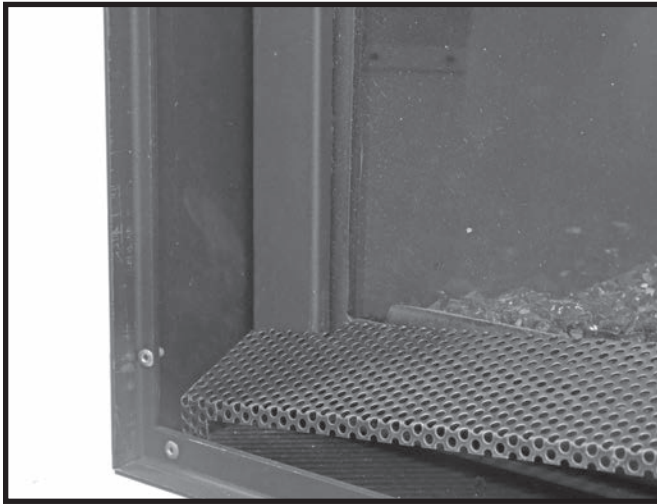
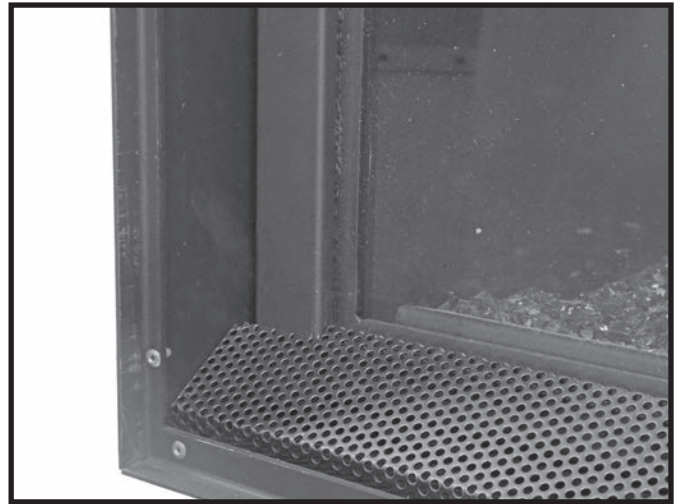

Figure 58: Installing bottom trim.
Figure 59: Bottom trim in place.
4. The meshed trim piece for the bottom rests on the floor and in the gap between the outer-most door frame and the fireplace glass (Figure 58 and Figure 59).